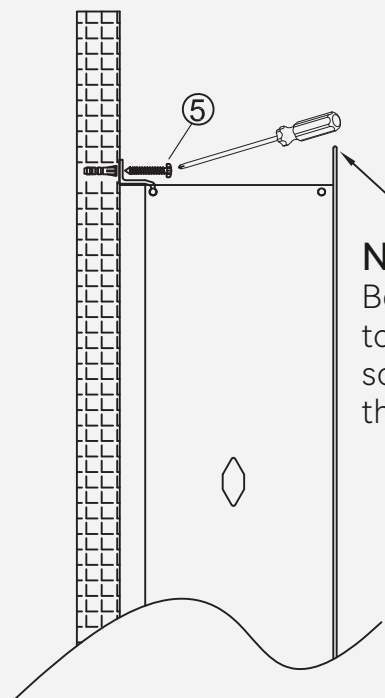

Fig 13
6. Remount the cabinet and connect with #10x 1 1/2" ⑤ screws (Fig 13). Be careful not to damage or scrape the top flange.